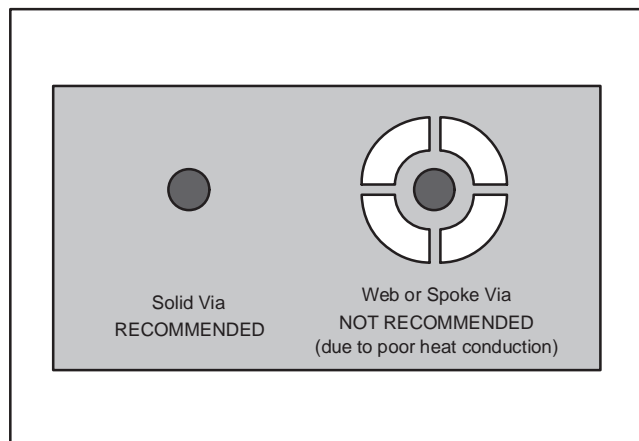

Figure 12. Via Connection
6. When laying out these holes, do not use the typical web or spoke via connection methodology, as shown in Figure 12. Web connections have a high thermal resistance connection that is useful for slowing the heat transfer during soldering operations. This makes soldering the vias that have ground plane connections easier. However, in this application, low thermal resistance is desired for the most efficient heat transfer. Therefore, the holes under the PowerPAD package should make their connection to the internal ground plane with a complete connection around the entire circumference of the plated-through hole.